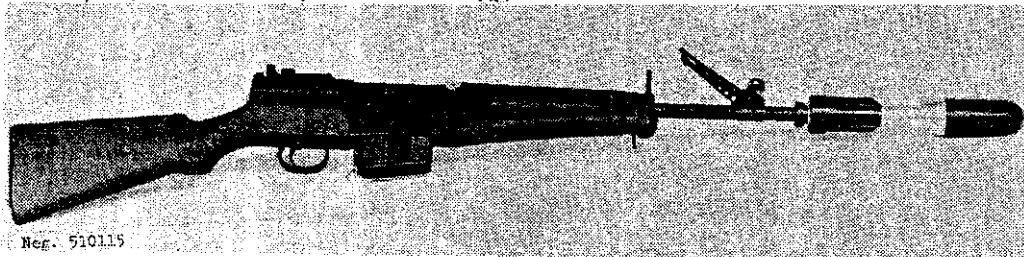
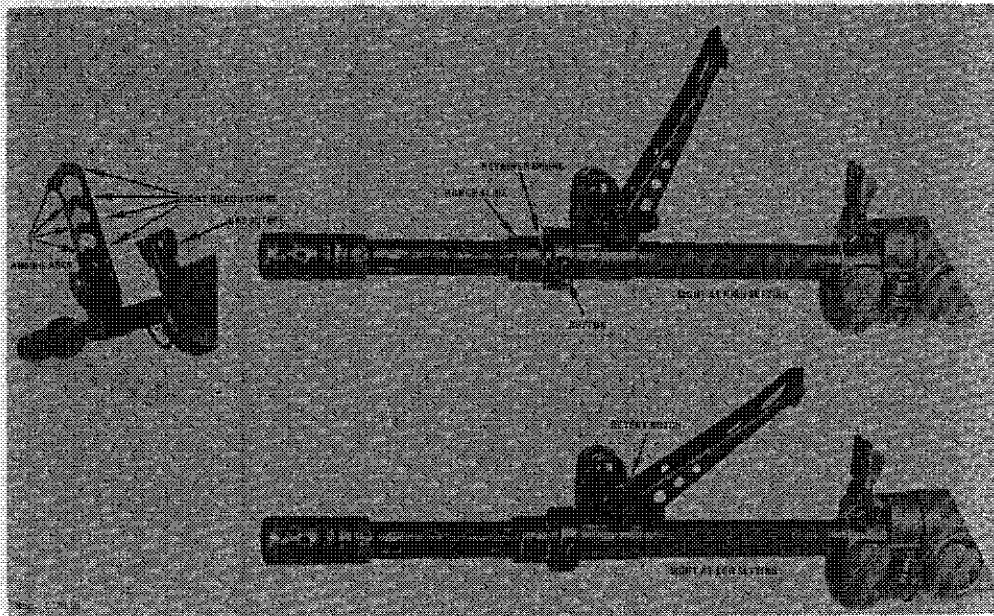

Figure 116. M.A.S. 49/56 with rifle grenade.
Figure 117. M.A.S. 49/56 grenade launcher and sight.
(2) If the rifle is a Model 49/56, slide the grenade over the launcher and seat it fully onto the range slide (fig 116). The retainer spring on the range slide prevents the grenade from slipping off the rifle. Press the button (fig 117) on the range slide and move the slide back or forth on the barrel until the rear edge of the range slide aligns with the number corresponding to the
proper range (to 200 meters). Erect the sight to its highest point (fig 117) and use the open sight to align the grenade on target. This sight and range technique is used only for indirect fire with antipersonnel grenades. For antitank grenades or direct fire, move the range slide back to the 20 graduation and, with the grenade sight in its highest position, align the appropriate arc on the sight with the grenade ogive (largest diameter) and target (fig 117). Once sighted, rotate the safety upward and press the trigger.